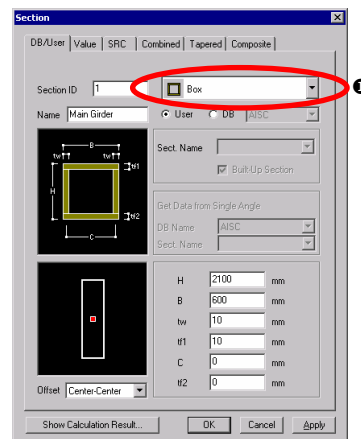

Figure 4.7 Section Data Dialog Box
3. Confirm “1” in the **Section ID** field of the **DB/User** tab (Figure 4.7).
5. Select “**Box**” in the **Section Shape** selection field (Figure 4.7 ①).
15. Select “**I-Section**” in the **Section Shape** selection field (Figure 4.7 ①).
① There are 2 methods to specify the Section Name: